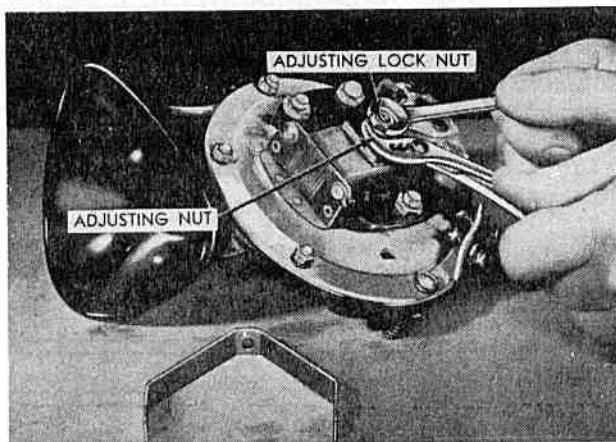

FIG. 110
**CHAMPION AND COMMANDER** Adjustment of the air-tone horn consists of barely loosening the adjusting lock nut and turning the adjusting nut until the proper tone is obtained (see Fig. 110).